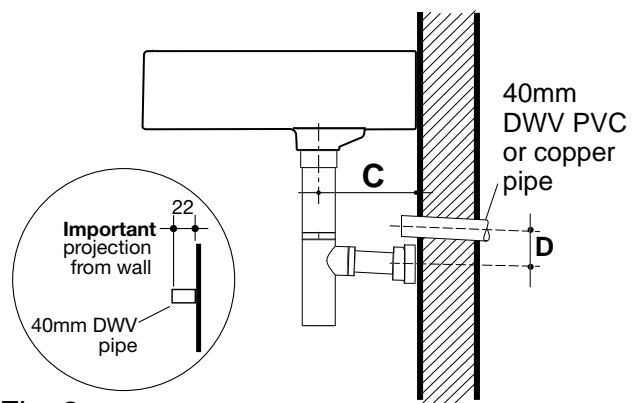

Fig. 2
1. Measure the basin waste setout **C**, as detailed in Fig.2
4. Assemble the bottle trap and fix it to the basin waste. Measure the height difference between the waste pipe centre and the bottle trap waste centre **D**, as detailed in Fig. 2.